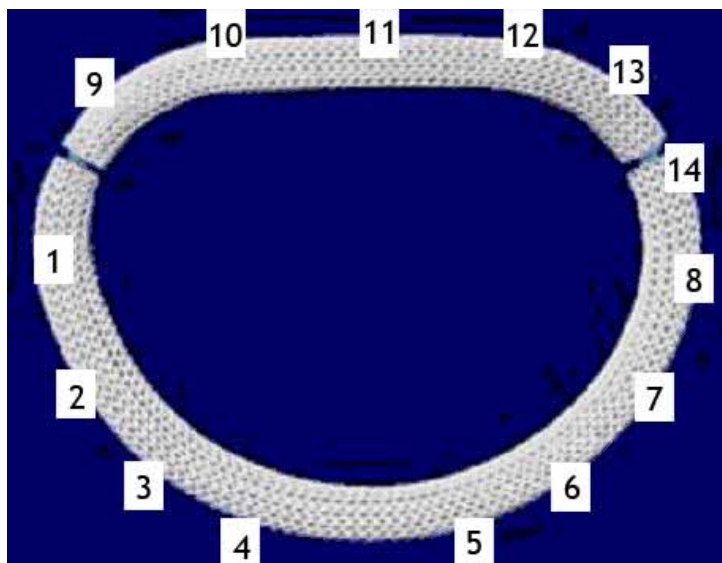

Figure 33: Suture order for full ring or valve replacement.
- Should a full annuloplasty ring be desired or a valve replacement become necessary, sutures are placed first posteriorly and then anteriorly [Figure 33].